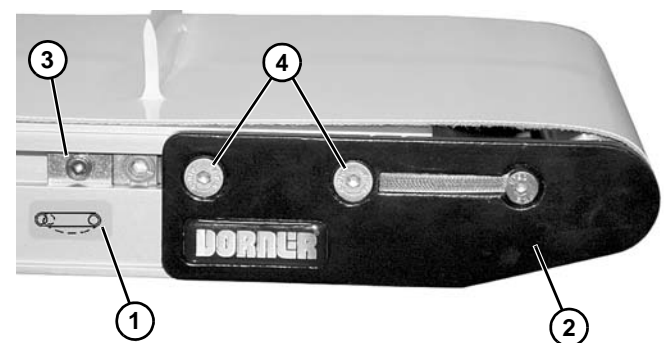

Figure 105
1. On tension end of the conveyor, identified with  a label (Figure 105, item 1), push in head plate assembly (Figure 105, item 2):
- a. On both sides of conveyor, loosen and move cam tracking assemblies (Figure 105, item 3) (if equipped) away from head plates.
- b. Loosen fastening screws (Figure 105, item 4) and push head plate assembly inward.